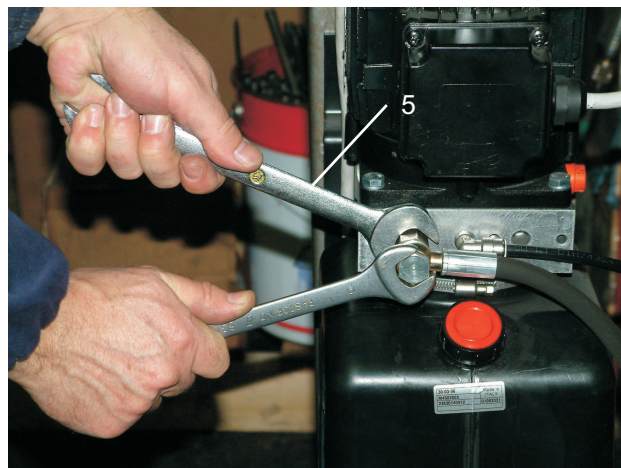

Fig.46a
**Keep the detail 4 Fig.46 locked using a wrench (5 Fig.46a).**